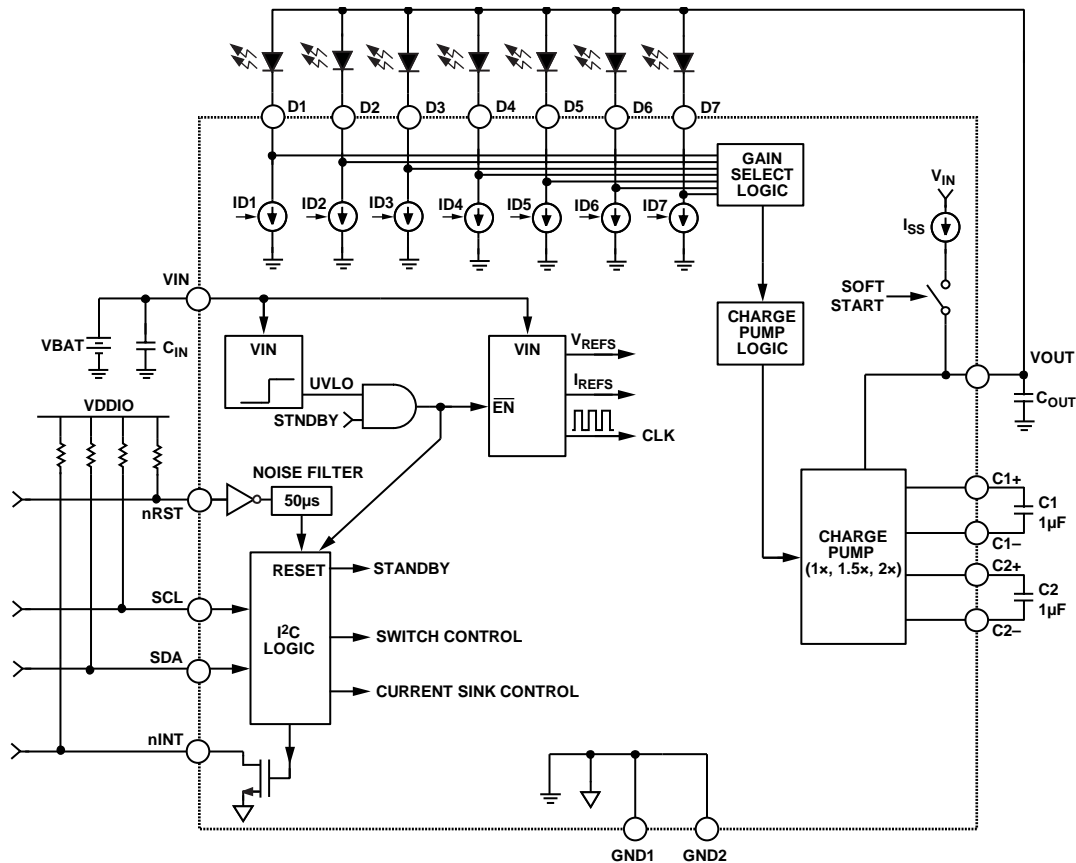

Figure 25. Detailed Block Diagram
By charging the capacitors in different configurations, the charge, and therefore the gain, can be optimized to deliver the voltage required to power the LEDs. Because a fixed charging and discharging combination must be used, only certain multiples of gain are available. The ADP8861 is capable of automatically optimizing the gain (G) from 1×, 1.5×, and 2×. These gains are accomplished with two capacitors (labeled C1 and C2 in Figure 25) and an internal switching network.